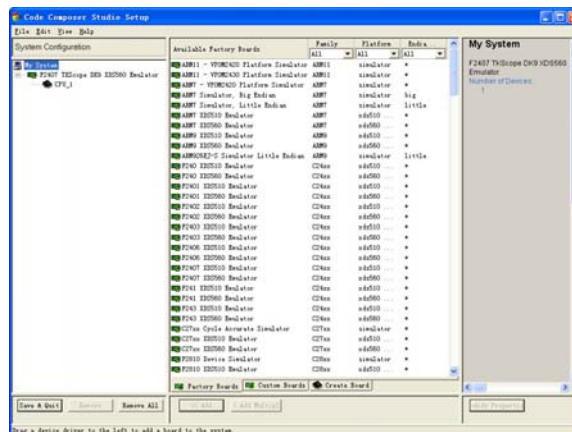

Figure 3.5 Completing settings interface
5. After the right to import, CCS3.3 setup interface show in Figure 3.5. At this time, need to set the Emulator information and CPU type.